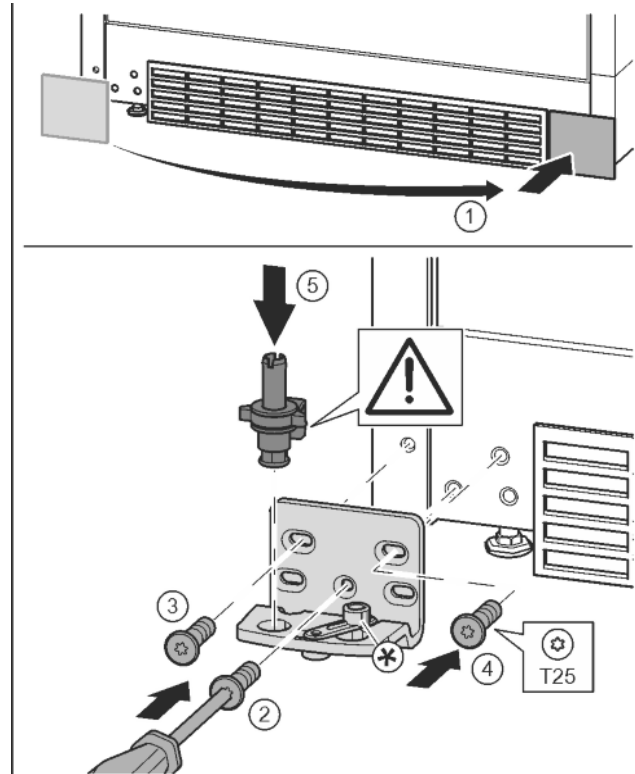

Fig. 12
- ▶ Remove the cover and fix it on the other side. Fig. 12 (1)
- ▶ Place the bearing bracket on the other side and screw in with the aid of a T25 screwdriver. Start with screw 2 at the bottom in the middle. Fig. 12 (2)
- ▶ Screw in screws 3 and 4. Fig. 12 (3, 4)
- ▶ Insert the bearing pin completely. Make sure that the catch mechanism is pointing to the rear. Fig. 12 (5)